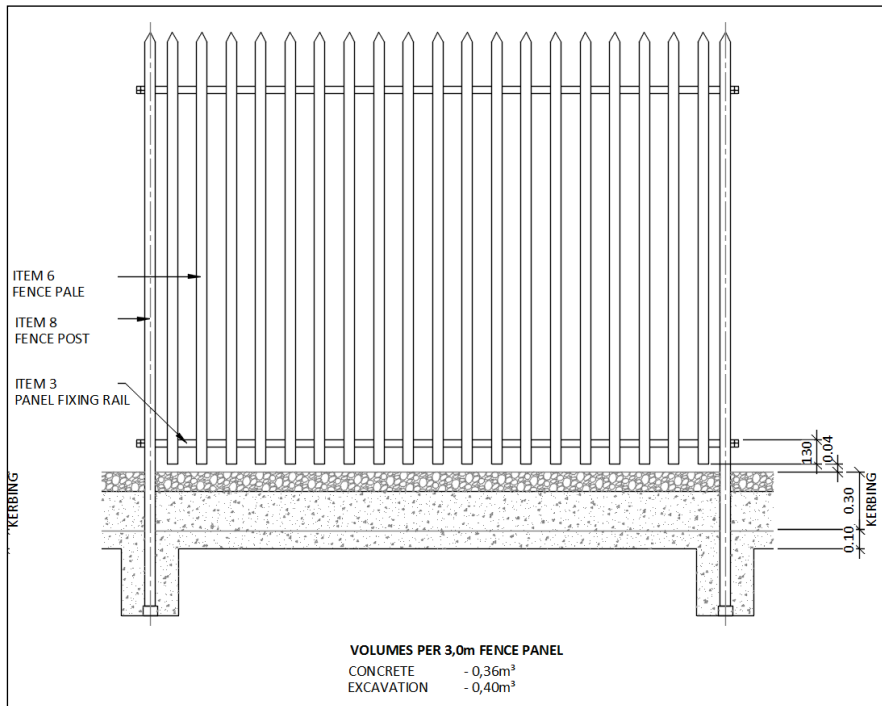

Figure 46: Typical Fence Panel Detail
- Figure 46: Typical fence panel detail.